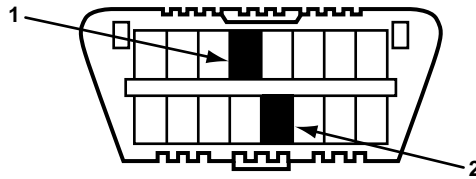

Figure 16-11 DLC3
2. Connect DLC3 terminal Tc to terminal CG (Figure 16-11).
1. Connect a jump wire between terminals Tc and CG of the DLC3 (Figure 16-11).
2. Connect a jumper wire between terminals #4 and #13 of the DLC3 (16 pin OBD-11) (Figure 16-11).